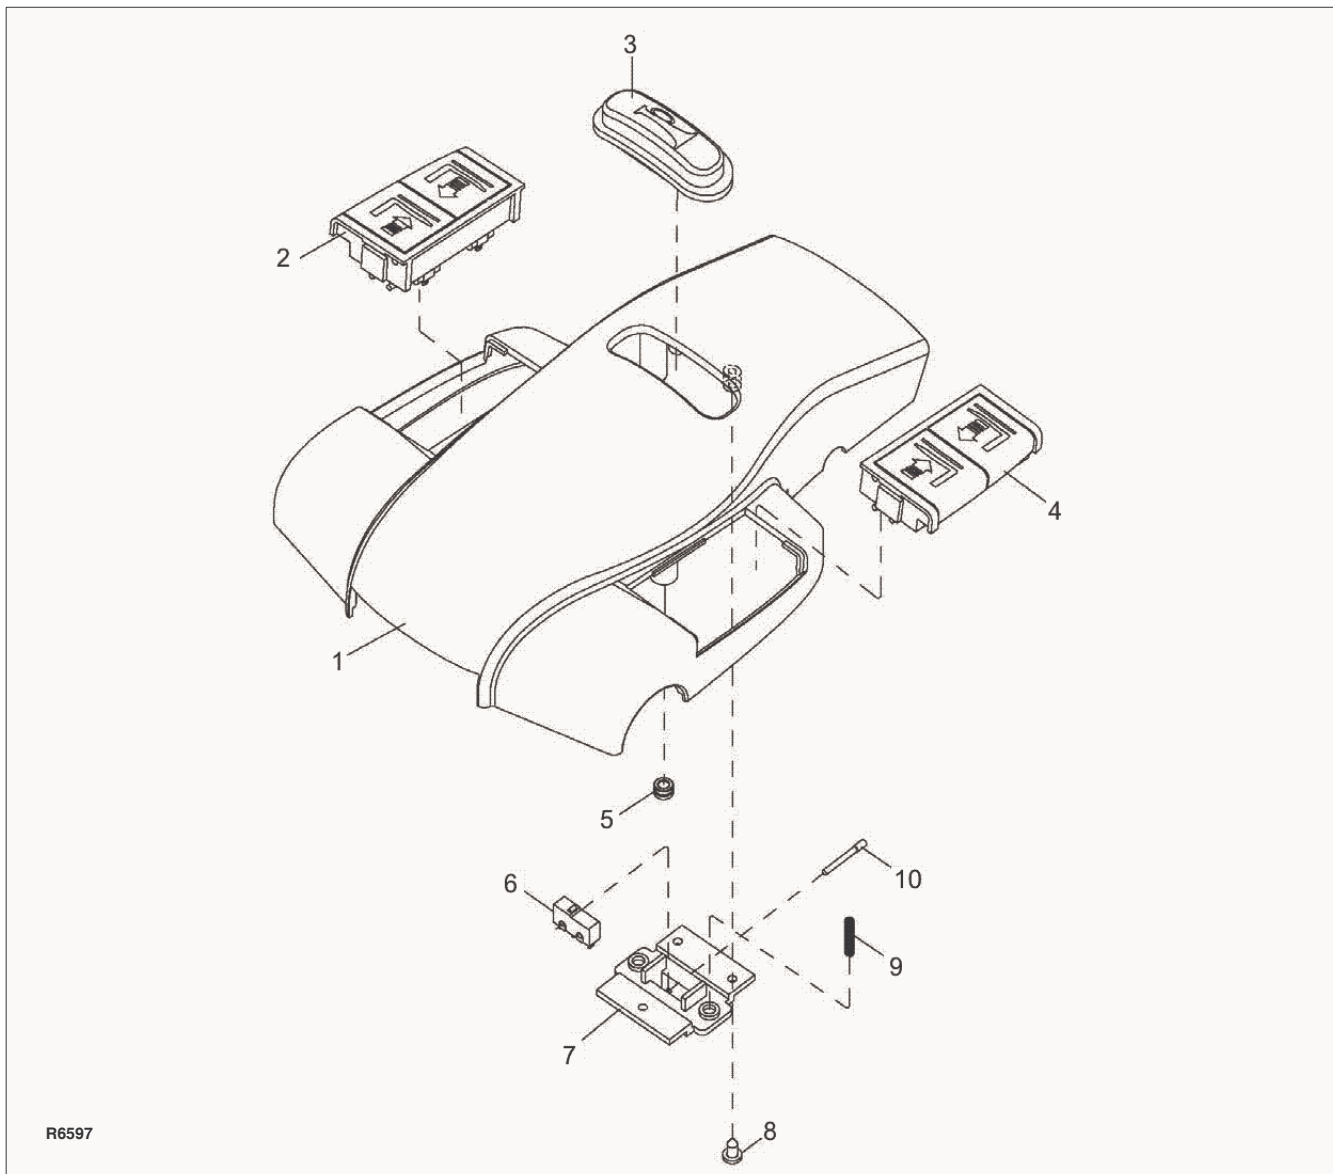
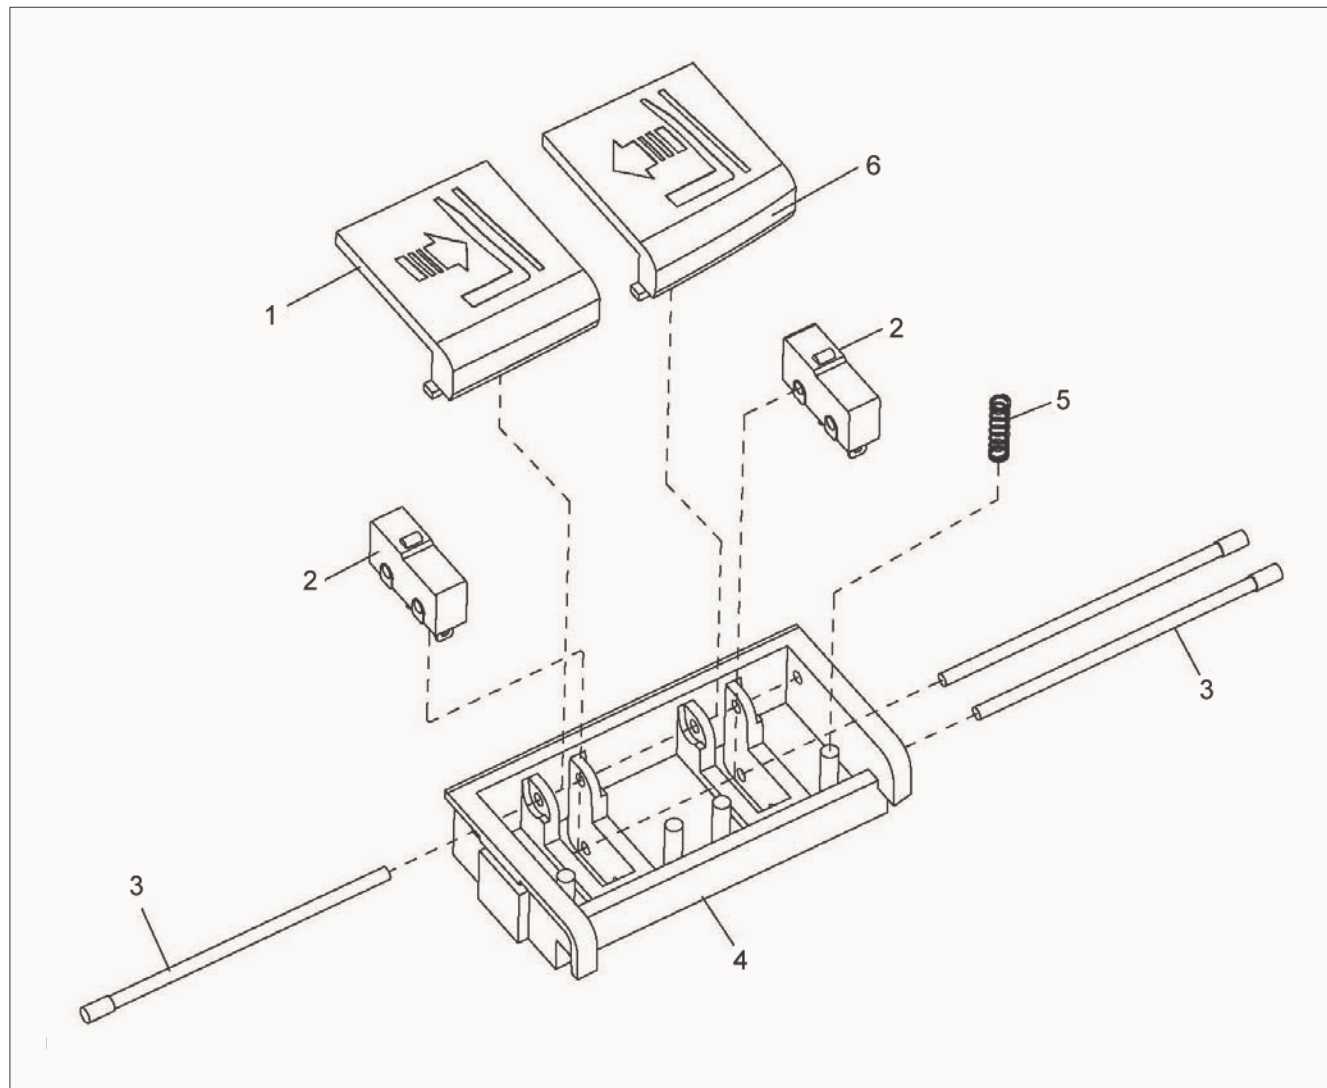

Figure 5-4 Cap Assembly
Figure 5-5 Left Lift/Lower Switch Assy (Right Similar)
2. Remove three screws (8, Figure 5-4), bracket (7) and spring (9).
3. Remove two pins (10) and switch (6) from bracket (7).
2. Disconnect harness (9, Figure 12-21) from switch assembly (2 or 4, Figure 5-4).
3. Remove pin (3, Figure 5-5) and switch assembly (2 or 4, Figure 5-4) from the cap (1)
4. Remove two pins (3, Figure 5-5), two switches (2) and four springs (5) from bracket (4).
5. Position the new switches (2) and four springs (5) in bracket (4) and secure with two pins (3).
6. Position switch assembly (2 or 4, Figure 5-4) in cover (1) and secure with pin (3, Figure 5-5).
7. Connect harness (9, Figure 12-21) to switch (2 or 4, Figure 5-4).